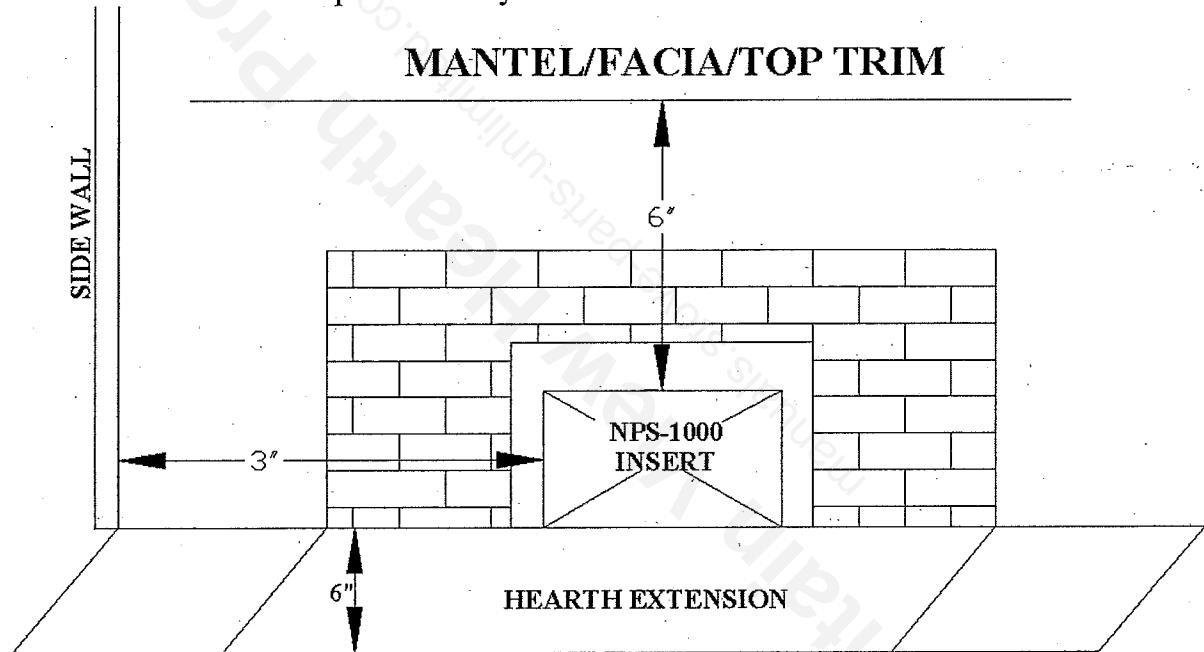

FIGURE 8: INSERT MINIMUM CLEARANCES
2. If an existing fireplace is determined to be suitable for an NPS-1000 insert, then wall clearances between the pellet stove and the fireplace are zero inches. FIGURE 8 shows other clearance requirements.